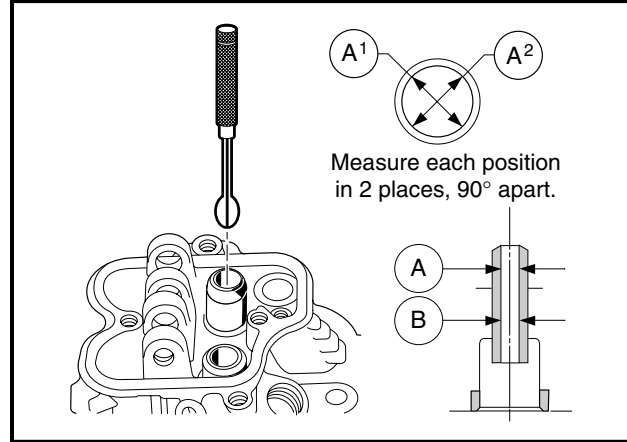

Figure 18-15 Measure I.D. of Valve Guides
1. Measure the inside diameter of each guide with a telescoping gauge (**Figure 18-15, Page 18-10**).